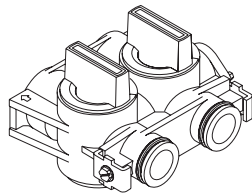

Figure 7
Helpful Tip: If the wire is too short, use the supplied connectors and shrink tubing to lengthen the wire (see figure 7).
- Move the bypass valve handles to the service position. The valve handles should be parallel to the pipes (see figure 7).